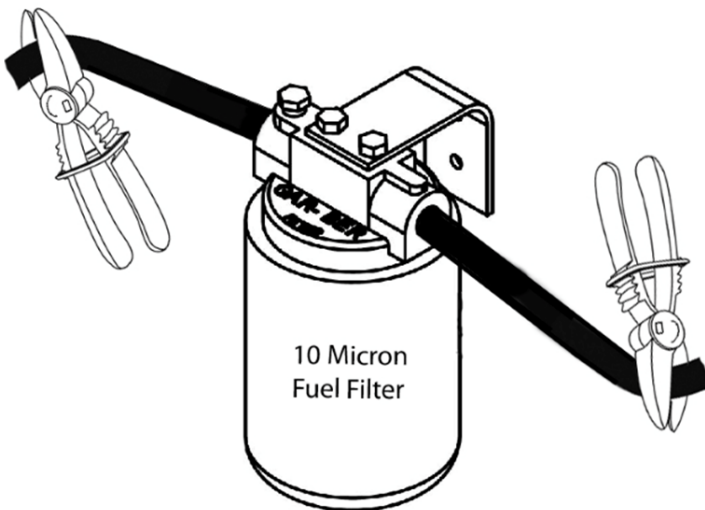

Figure 151
2. Using hose pinch off pliers, clamp off both fuel lines going to the fuel filter. Reference Figure 151.